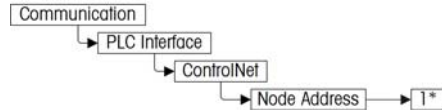
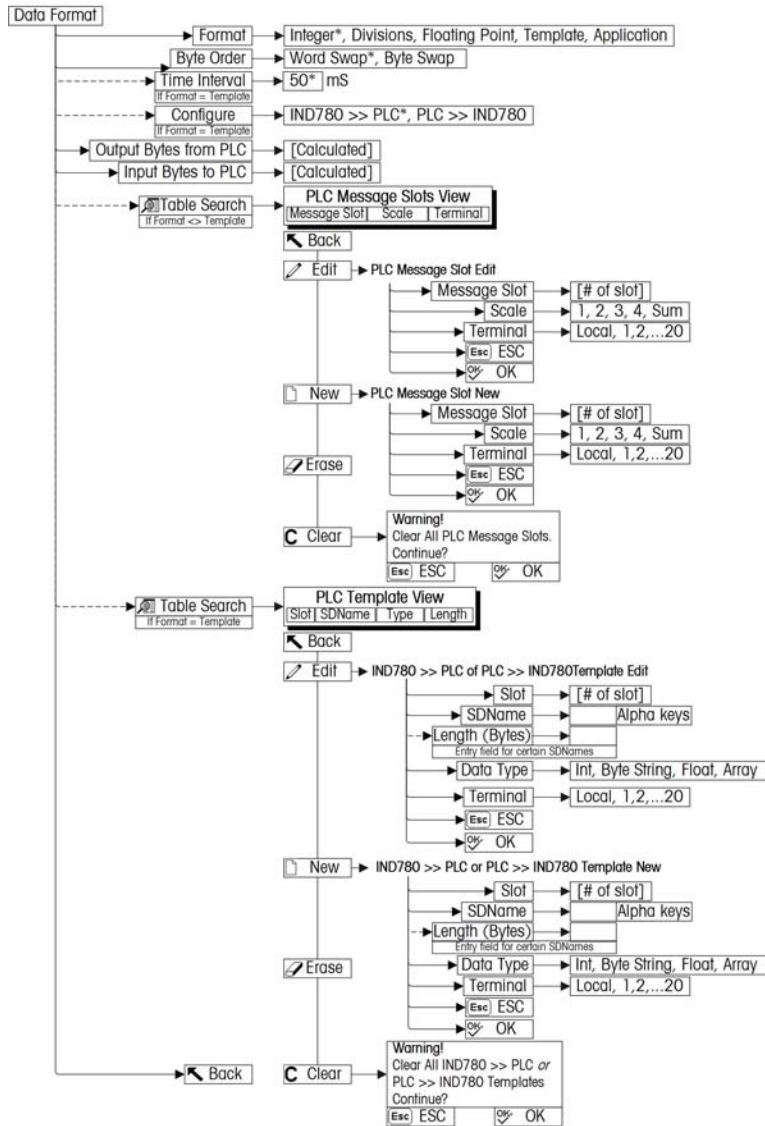

Figure 3-8: The ControlNet Program Block
Figure 3-9: PLC Data Format Setup Block
The IND780 terminal automatically detects the presence of a ControlNet Kit option board if one is installed. When the IND780 detects that a ControlNet board is present, it enables the ControlNet parameters in a program block under Setup > Communication > PLC Interface > ControlNet. Figure 3-8 shows the ControlNet program block and Figure 3-9 the PLC data format setup block at Communication > PLC Interface > Data Format, with default settings indicated by an asterisk.
1. Select Communication > PLC Interface > Data Format (Figure 3-9).